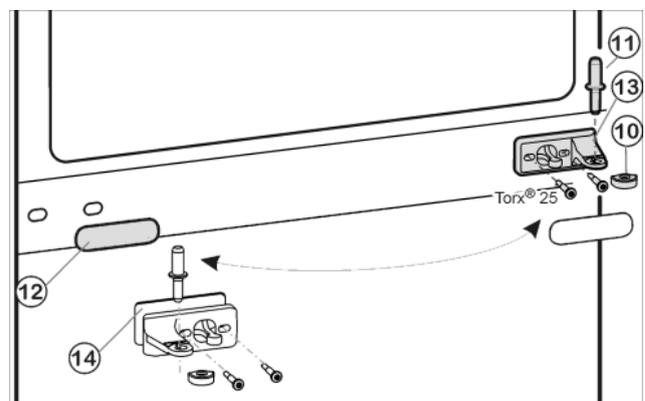
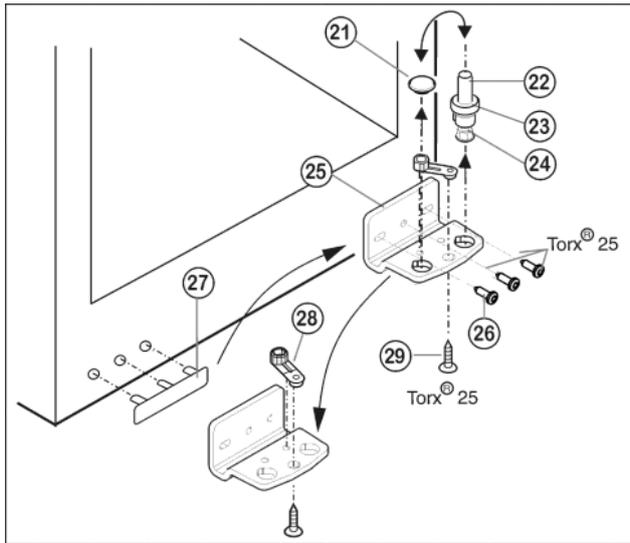

Fig. 8
Fig. 9
- ▶ Draw the middle bearing pin Fig. 8 (11) out of the turn hinge and lower door.
- ▶ Remove the plastic cap Fig. 8 (10).
- ▶ Unscrew the middle turn hinge (2x Torx® 25). Fig. 8 (13)
- ▶ Carefully detach the cover panel Fig. 8 (12).
- ▶ Turn the middle turn hinge Fig. 8 (13) with the washer Fig. 8 (14) through 180° and screw it firmly into place on the new hinge side (with 4 Nm).
- ▶ Turn the cover panel Fig. 8 (12) through 180° and snap it into place again on the new handle side.
- ▶ Lift out the bearing pin Fig. 9 (22) together with washer Fig. 9 (23) and foot Fig. 9 (24).
- ▶ Lift off the stopper Fig. 9 (21).
- ▶ Unscrew Fig. 9 (26) the turn hinge Fig. 9 (25).
- ▶ Unscrew Fig. 9 (29) the bearing element Fig. 9 (28), transfer it to the opposite location hole of the turn hinge and screw it firmly into place.
- ▶ Carefully lift off the cover on the handle side Fig. 9 (27) and transfer it to the opposite side.
- ▶ Screw the turn hinge Fig. 9 (25) firmly into place on the new hinge side, possibly using a cordless screwdriver (with 4 Nm).
- ▶ Re-insert the stopper Fig. 9 (21) into the other hole.
- ▶ Re-insert the bearing pin Fig. 9 (22) together with washer and foot. In so doing, pay attention that the locating lug points backwards
- ▶ Place the lower door from above onto the lower bearing pin Fig. 9 (22).
- ▶ Place the plastic cap Fig. 8 (10) back onto the middle turn hinge Fig. 8 (13).
- ▶ Place the middle bearing pin Fig. 8 (11) in the lower door, on the new hinge side, through the middle turn hinge Fig. 8 (13).
- ▶ Place the upper door on the middle bearing pin Fig. 8 (11).
- ▶ If necessary, align the doors to the appliance housing by way of the two oblong holes in the bottom turn hinge Fig. 9 (25) and middle turn hinge Fig. 8 (13). To do so, unscrew the middle screw in the bottom turn hinge Fig. 9 (25).